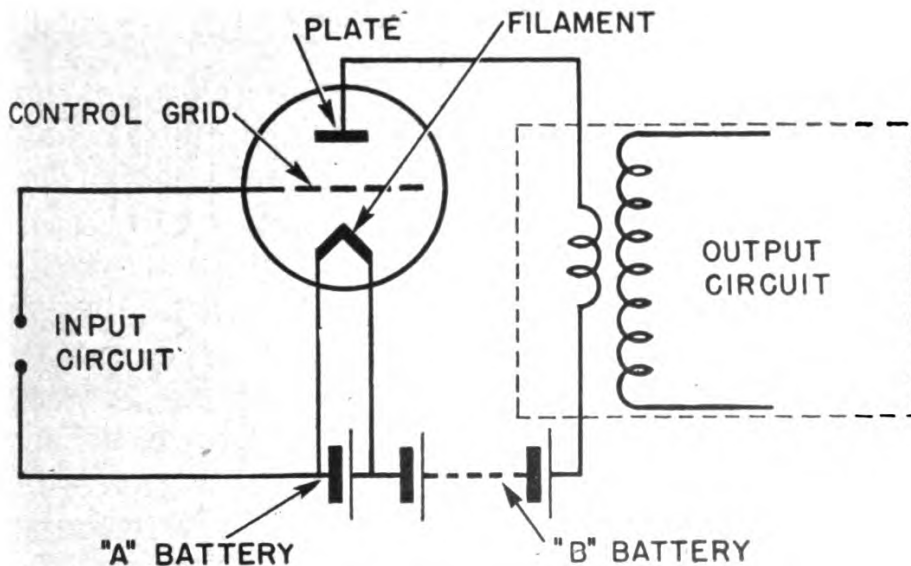
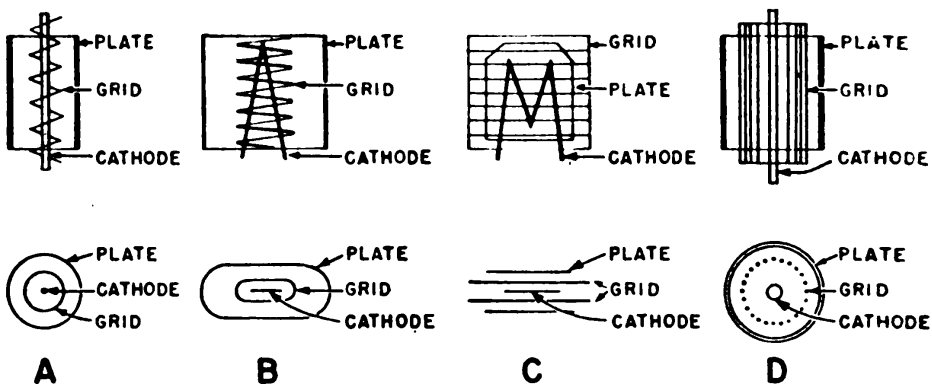

Figure 209.—Triode.
Figure 210.—Triode construction.
**TRIODES** are tubes containing **THREE** electrodes. They are like the diode except for the addition of a third electrode, called a **GRID**. Figure 209 shows the construction of a triode. Notice the grid's position **BETWEEN** the cathode and anode. Although there are a number of different types and arrangements of the triode (see figure 210), they all place the grid between the cathode and the anode. Notice, in figure 210, that the grid is like a screen between
Up to now, current has been controlled by switches, rheostats, breakers, and fuses. But here is a new type of control—the grid of a triode. This is how it works. Imagine a triode with no voltage on the grid. Current flows normally from cathode to anode—it passes right through the grid. Now impress a small negative voltage on the grid (as in figure 209). The grid has a negative charge of its own and will repel the electrons which try to get